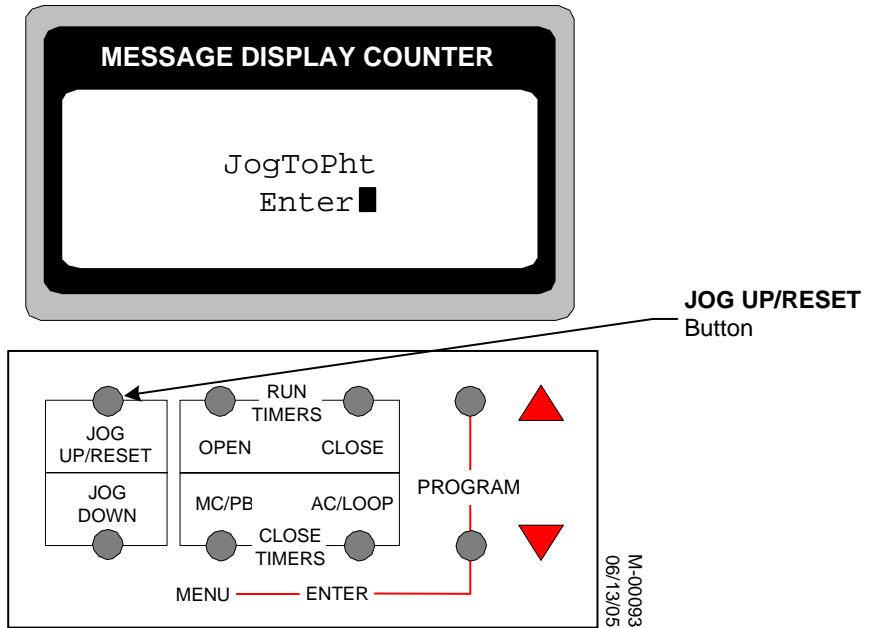

Figure 4-14: JOG UP/RESET Button
- c. Press and release the JOG UP/RESET button until the door is in the desired open position (roughly an inch and a half above the reintroduction point). See Figure 4-14.